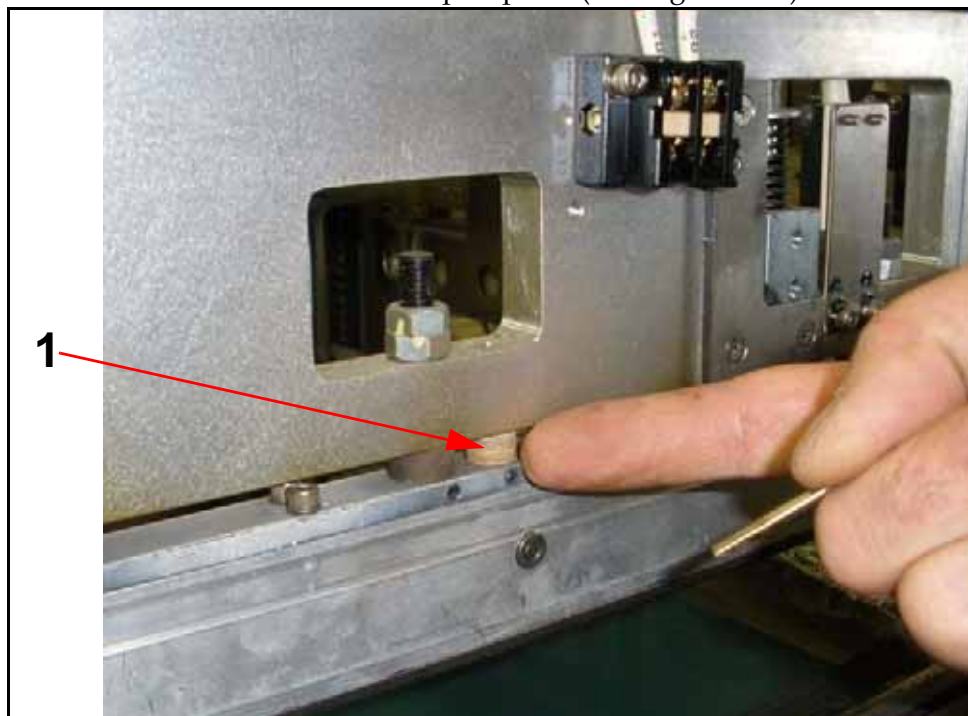

Figure 7-23. Thermocouple Spacer Removal
- 10 Remove thermocouple spacer (1 in Figure 7-23).